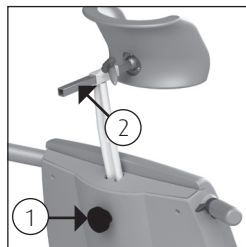

Figure 14 Head support.
- In order to set its height, the rotating button (1) on the back of the chair must be undone. Once you have reached the required height, do the button up again (See figure 14).
- To set the depth of the head / neck support, the handle (2) is unlocked. Once you have reached the required height, do the handle up again. The depth setting has a range of 7 cm.